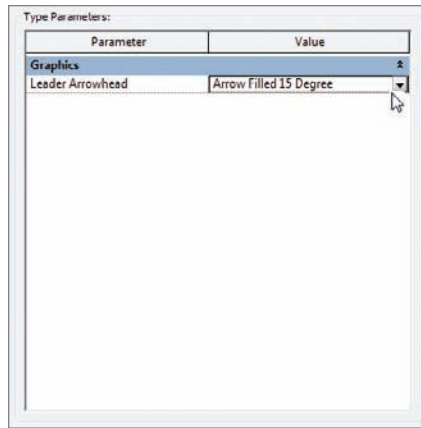

FIGURE 11.72 Changing the leader arrowhead is one of the first things you will probably have to do.
11. Change the leader arrowhead to Arrow Filled 15 Degree, as shown in Figure 11.72.